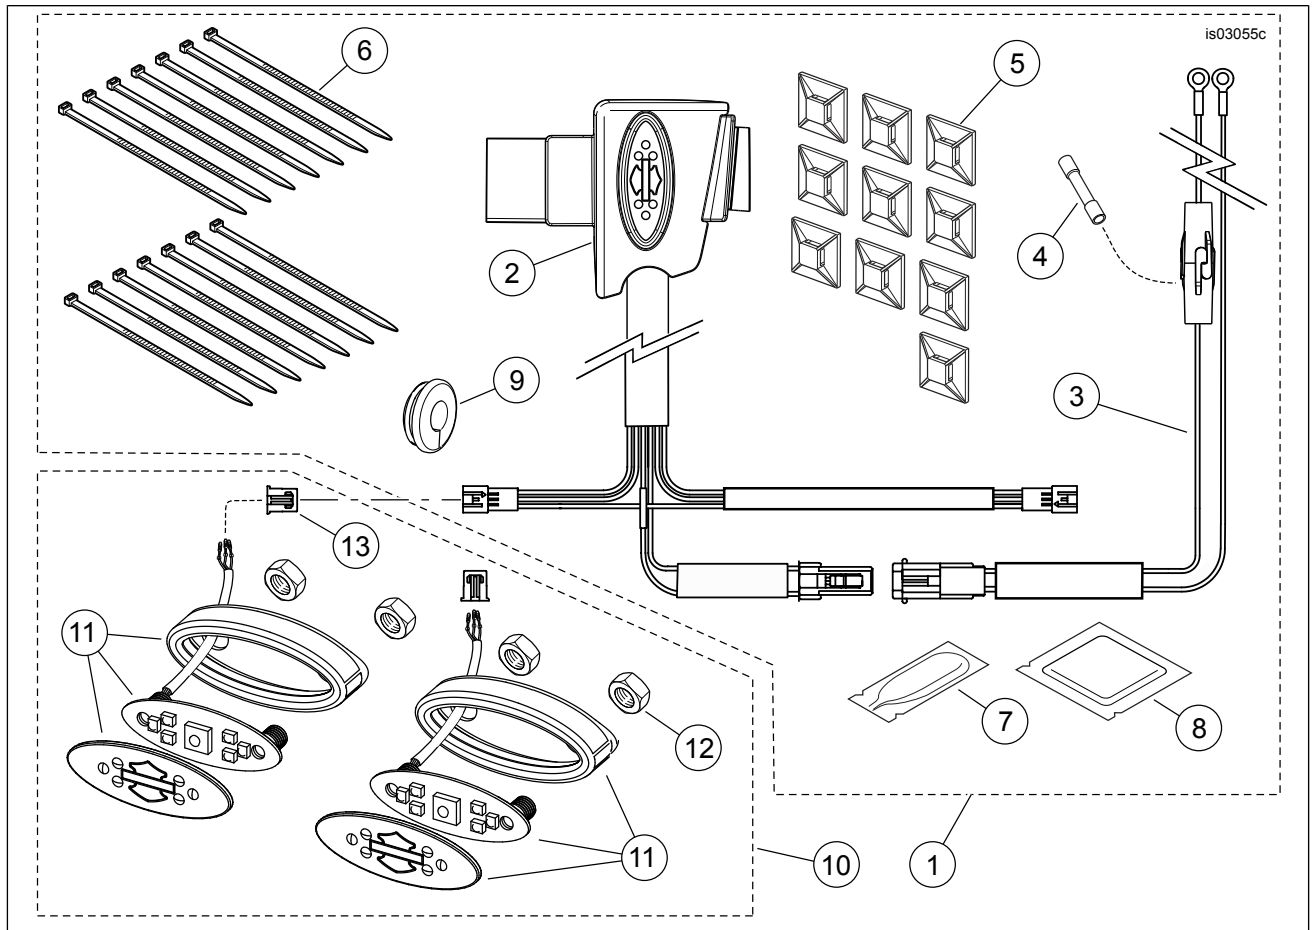

Figure 7. Service Parts, Tour-Pak Luggage and Saddlebag Interior Light Kits
See Figure 7 and Table 1.
1. Using alcohol wipes from the kit, prepare the interior surface of the Tour-Pak lid for adhesive backed wire retainers (Item 7, Figure 7 ) at several equally spaced locations around the front of the Tour-Pak lid .
2. See Figure 7. Obtain the harness extension (3) with the in-line fuse (4) from the kit. Fit the connector end through the grommet hole in the Tour-Pak. The conduit end with the in-line fuse, black and red wires and ring terminals route to the battery.
3. Mate the harness extension two-way socket housing to the two-way pin housing on the Tour-Pak light/controller harness (2).
6. Coat the ring terminal on the red lead with dielectric grease (7) from the kit. Thread the battery bolt through the ring terminal and through the red positive cable into the battery positive terminal.
9. With the red and black leads routed to avoid chafing or heat points, use cable straps (6) to attach the wire leads to the vehicle wire harness in at least two locations.